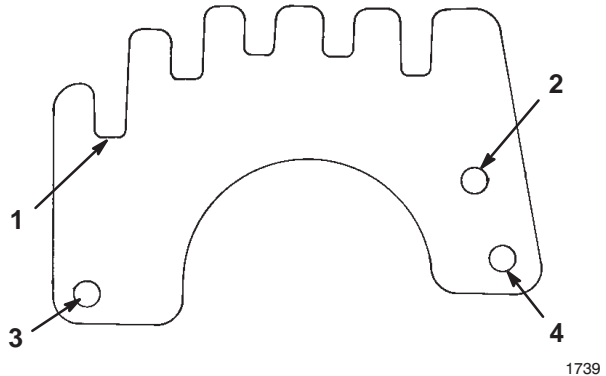

Figure 4
5. Use the rear wear plate as a template to locate and mark the two mounting holes on the lawn mower housing (Fig. 4).